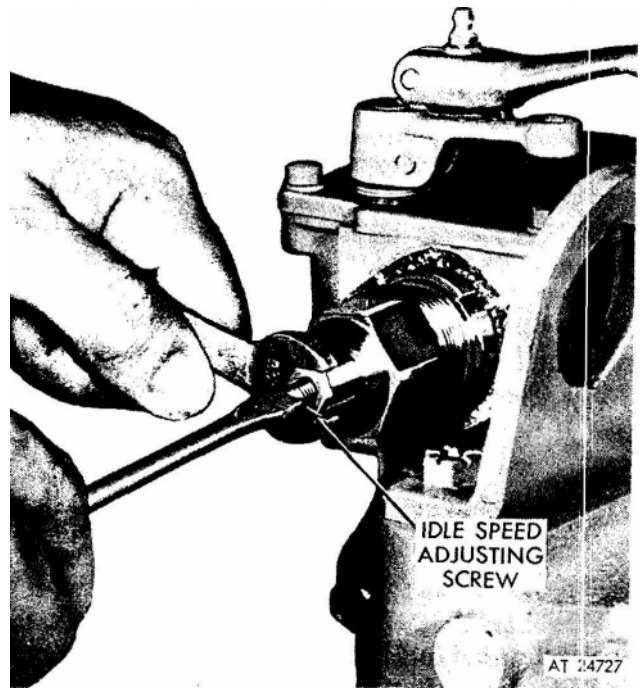

Figure 6. Adjusting the buffer screw.
1. With the engine running at normal operating temperature, turn the buffer screw in (fig. 6) so that it contacts the differential lever as lightly as possible and still eliminates the engine roll.